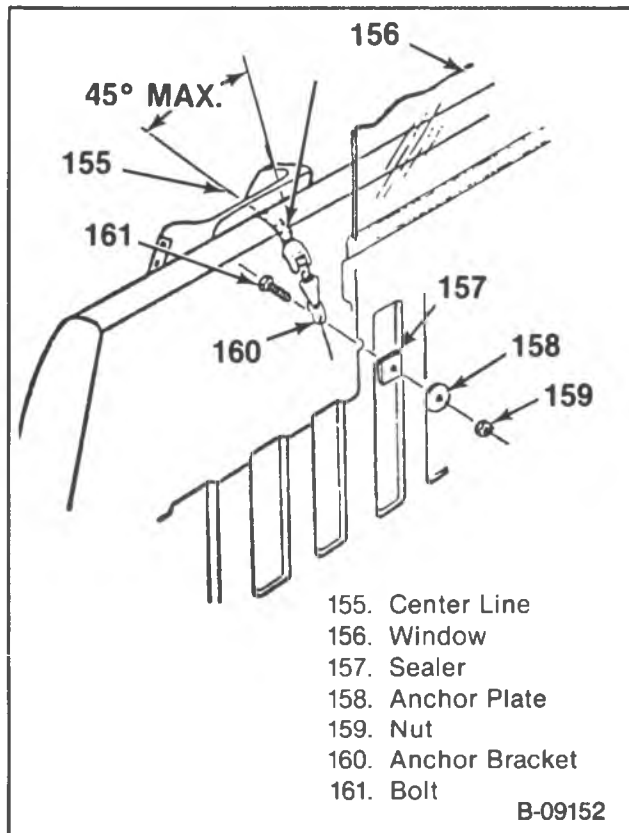

Figure 29 — Pickup Top Strap Belt Components
1. Place the Child Seat in the front seating position (rear seating position on crew cab models) (figure 29).